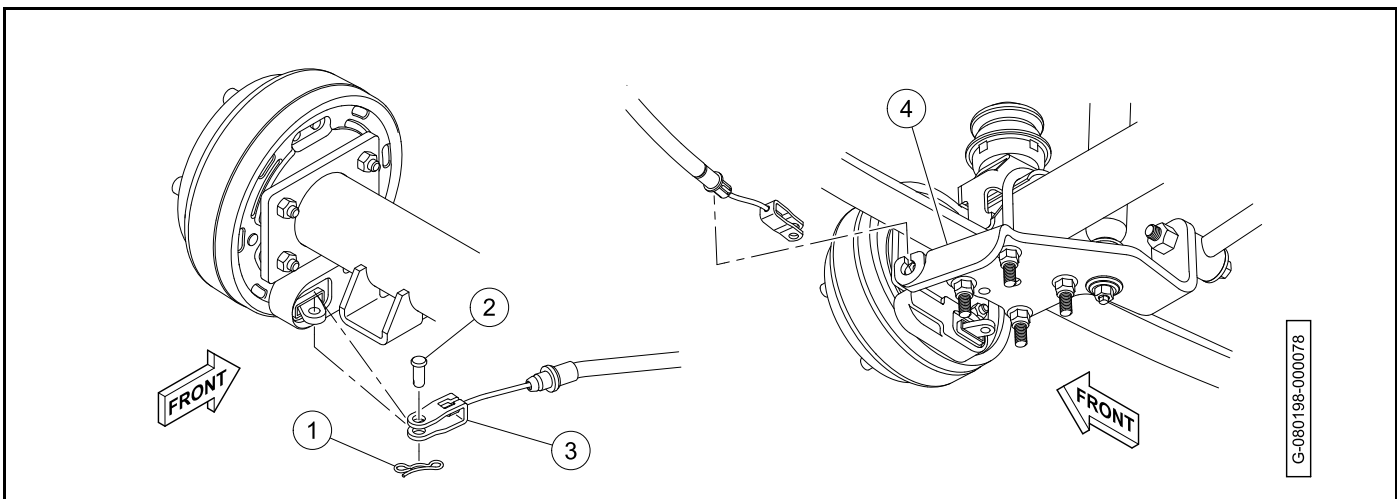

Figure 6-29
12. Remove and discard the bow tie locking pin (1) (**Figure 6-29**).